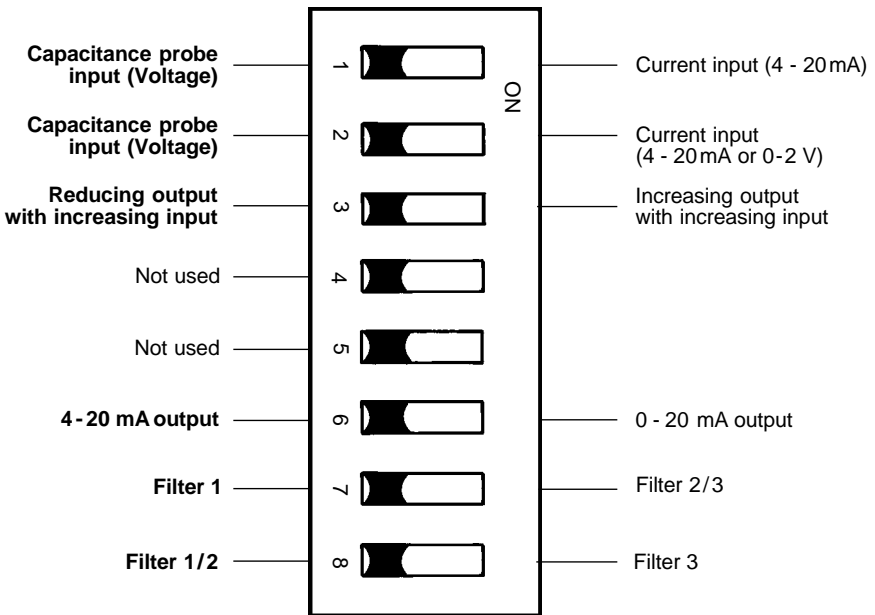

Fig. 3 Ex-works settings are as shown above (in bold text)
- Set the switches to the positions shown in Figure 3 for the chosen functions.